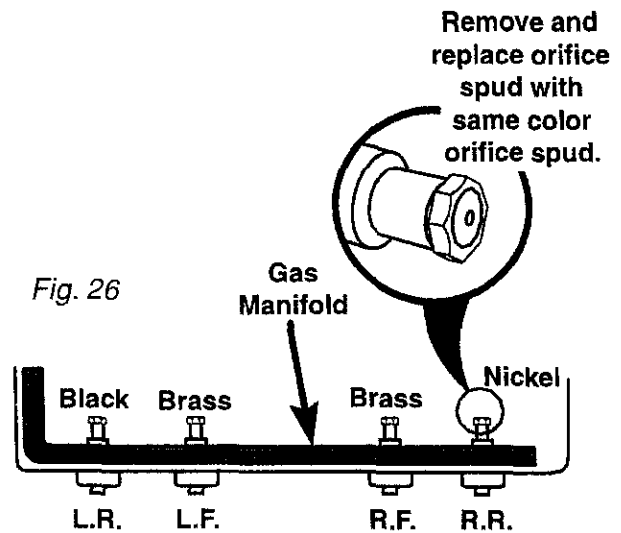
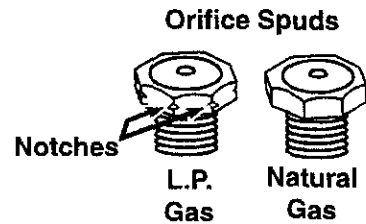

Fig. 26
Fig. 27
6. Prop open cooktop. Remove the venturi plate. Locate L. P. gas orifice spuds in a literature package included with the range. Orifice spuds are color coded. (Fig. 26) Remove one Natural gas orifice spud at a time using a 3/8 inch combination wrench. Install the same color L. P. gas orifice spud (Fig. 27) to replace the Natural gas orifice spud.